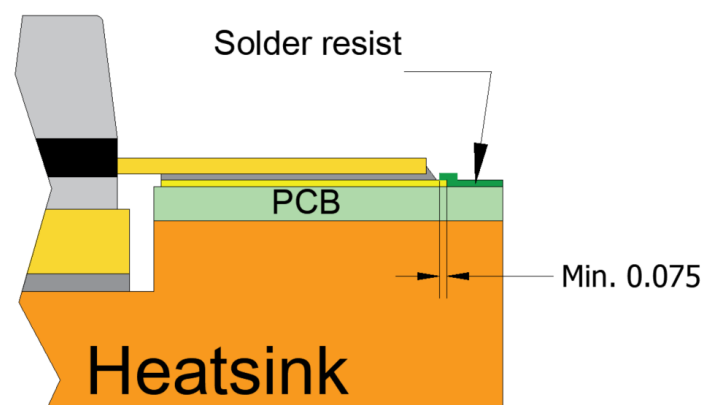

Figure 14. SMD cross section view of a straight leads package
- Solder mask defined (SMD) the solder mask overlaps the underlying metal pad, which is slightly larger than the solder mask opening (Figure 14).